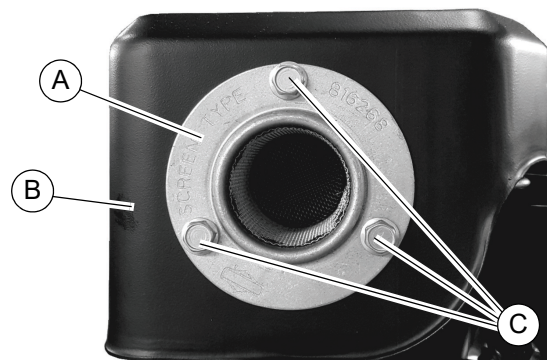

Figure 2-10. Attaching Discharge Deflector
1. See Figure 2-10. Align holes in spark arrester (A) with holes in the muffler (B).
2. Secure spark arrester with screws (C) using a 9/32" wrench or nut driver.